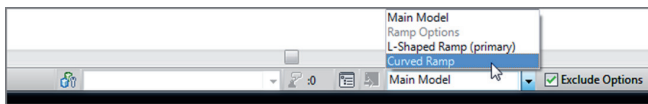

FIGURE BC7.12: Jumping into an option
1. Switch to the Curved Ramp option, as shown in Figure BC7.12.